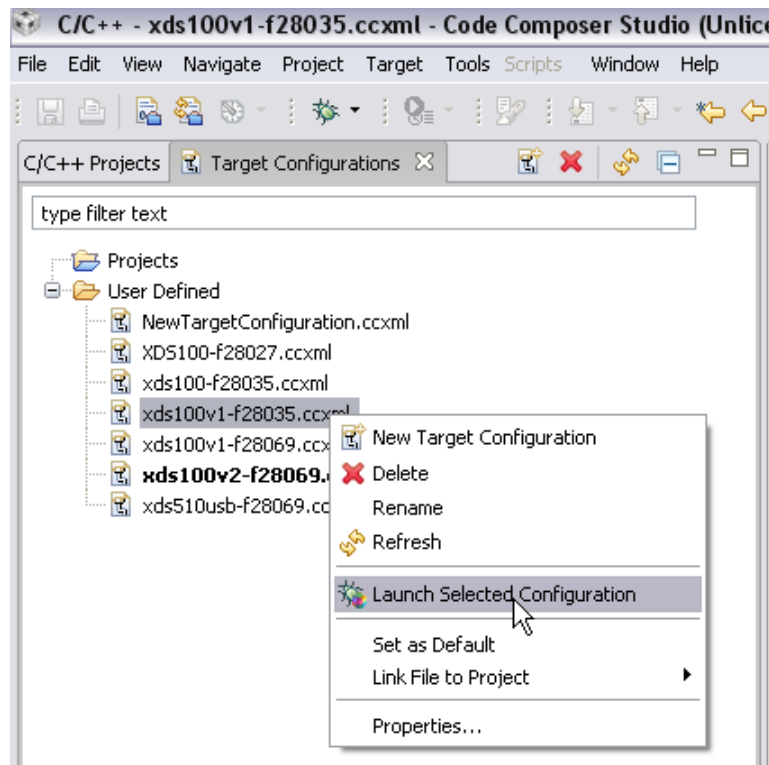

Figure 5. CCS Launch Selected Configuration
9. On the Target Configurations Tab, right click on your new Target and click "Launch Selected Configuration" in the context menu (see Figure 5).